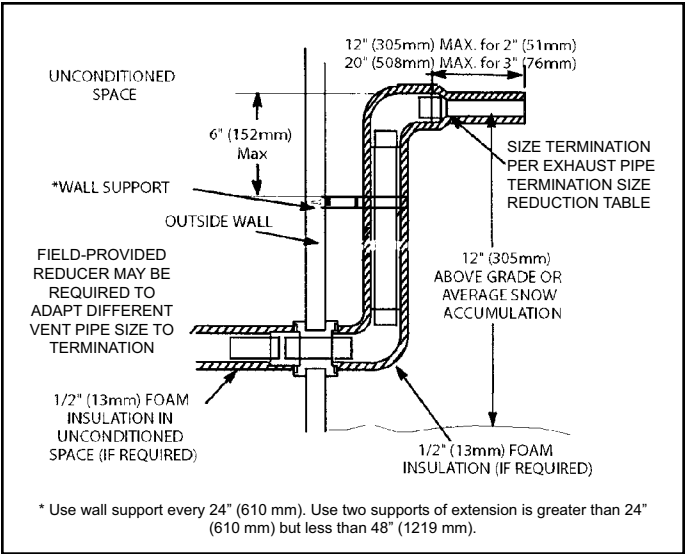

Figure 47. Non-Direct Vent Field Supplied Wall Termination Extended
- 3. If exhaust piping must be run up a sidewall to position above snow accumulation or other obstructions, piping must be supported every 24" (610 mm) as shown in Figure 47. When exhaust piping must be run up an outside wall, any reduction in exhaust pipe size must be done after the final elbow.